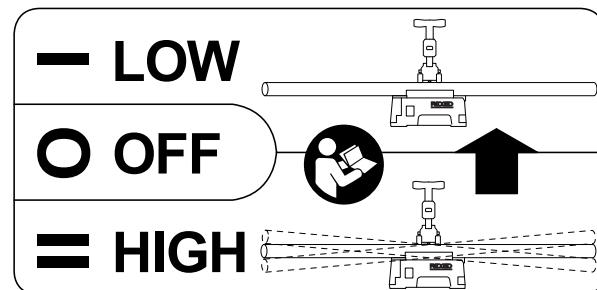

Figure 8 – Speed Label
- Position the foot switch as shown in *Figure 8* to allow a proper operating position.
The Power Tubing Cutter has two operating speeds – LOW and HIGH, see *Figure 8*.